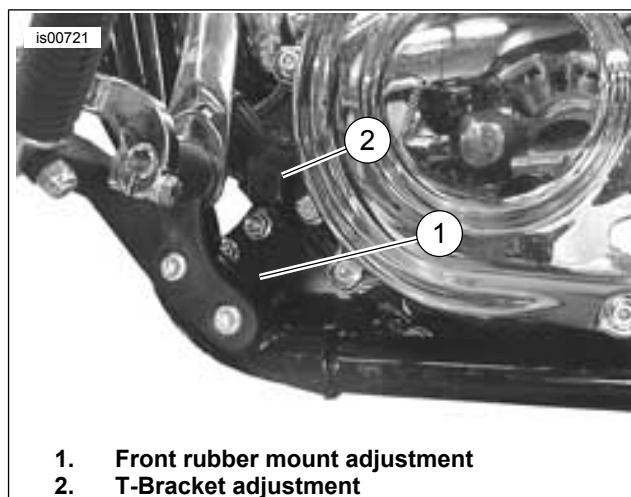

Figure 7. Front Leverage Points (Left Side Shown, Right Side Similar)
3. See Figure 7. Using a suitable tool wrapped in a clean, soft cloth, between the front mount and frame (1), move the rear wheel to the left or right, as necessary, to provide clearance for the gauge. Tighten the front mount bolts while maintaining pressure on the tool. Tighten bolts to 30–37 N·m (22–27 ft-lbs).
6. See Figure 7. Use a suitable tool between the frame and T-bracket (2). Move the rear wheel to the left or right, as necessary, to provide clearance for the gauge. Tighten the T-bracket bolts while maintaining pressure on the tool. Tighten bolts to 34–41 N·m (25–30 ft-lbs).